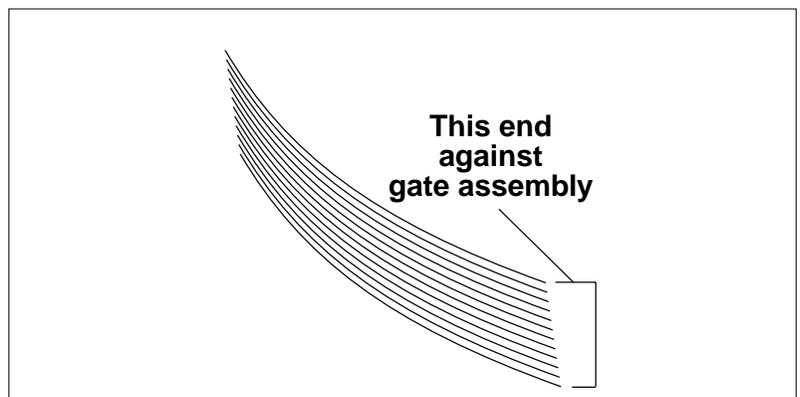

Figure 3-1. Preshingling of First Stack
1. Start by preshingling by hand a small stack of material so that it conforms to the curvature of the gate assembly. Push in gently to make sure lead edges touch the gate bracket assembly and front edges of the hopper guides (Figure 3-1).